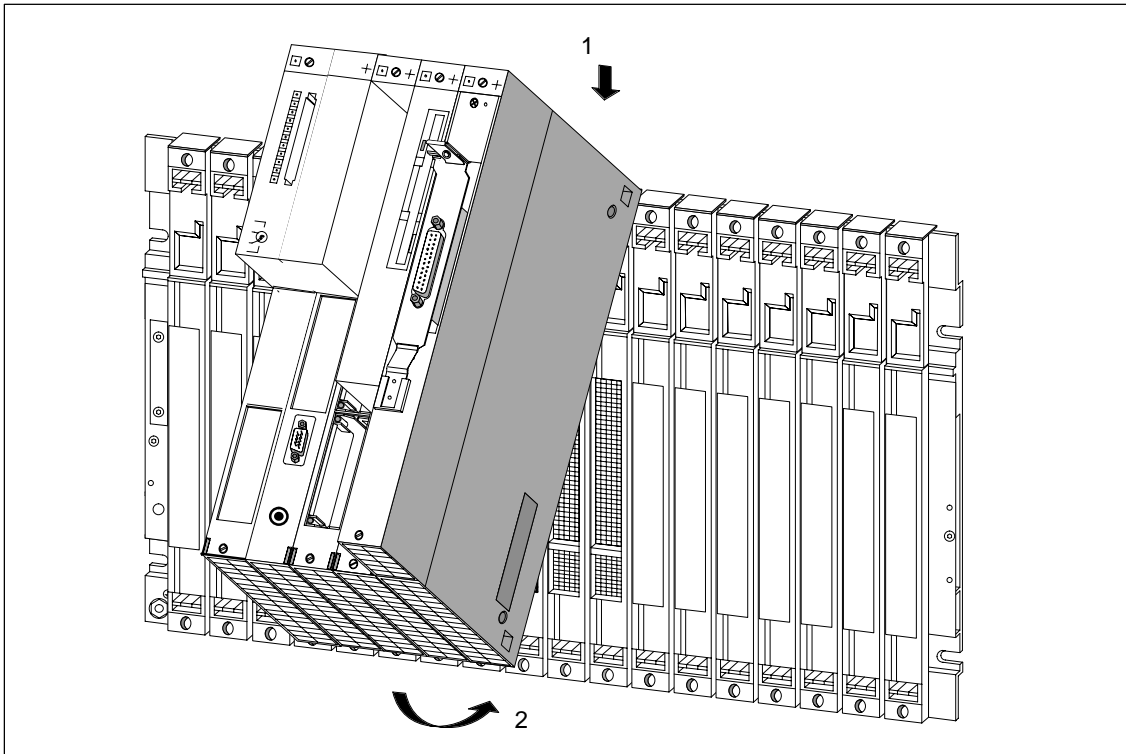

Figure 8-12 Attaching a Module Assembly Comprising CPU and Expansion Modules and Swinging it into Position
3. Attach the module assembly and swing it downward (see Figure 8-12).
Attach the module assembly (1) and swing it downwards (2). Figure 8-12 shows how to attach a module assembly onto a rack and swing it into position.